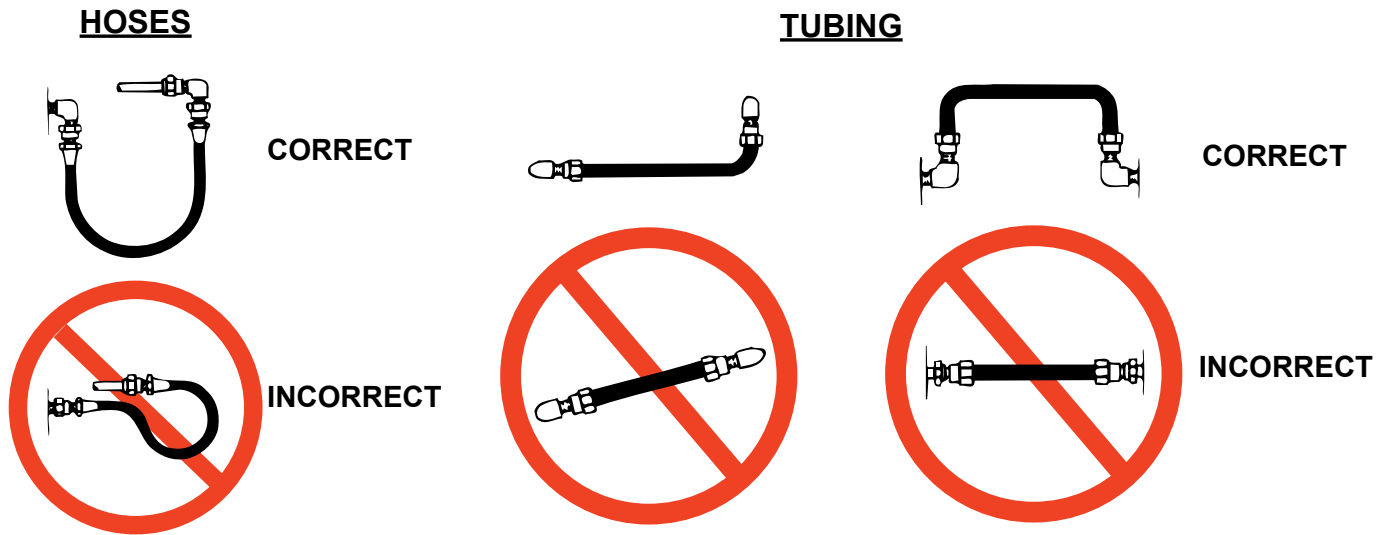

Fig. 1. Hoses and Tubing Connections
- Avoid straight line tubing connections in short runs. Straight line runs do not provide for expansion and contraction due to pressure and/or temperature changes. See fig. 1. "Hose and Tubing Connections" under section "Hydraulic Connections" of this form.